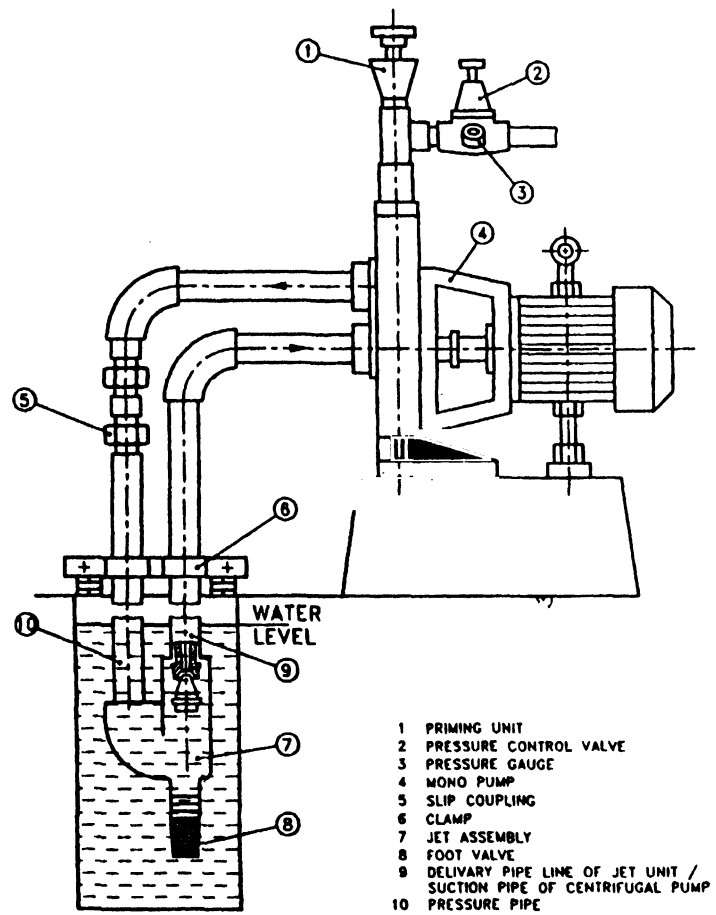
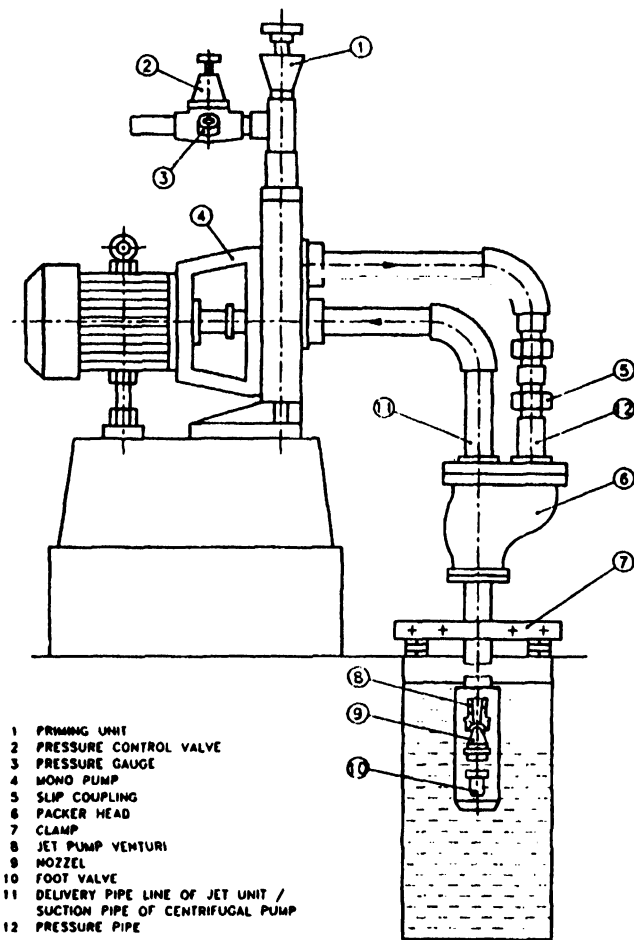
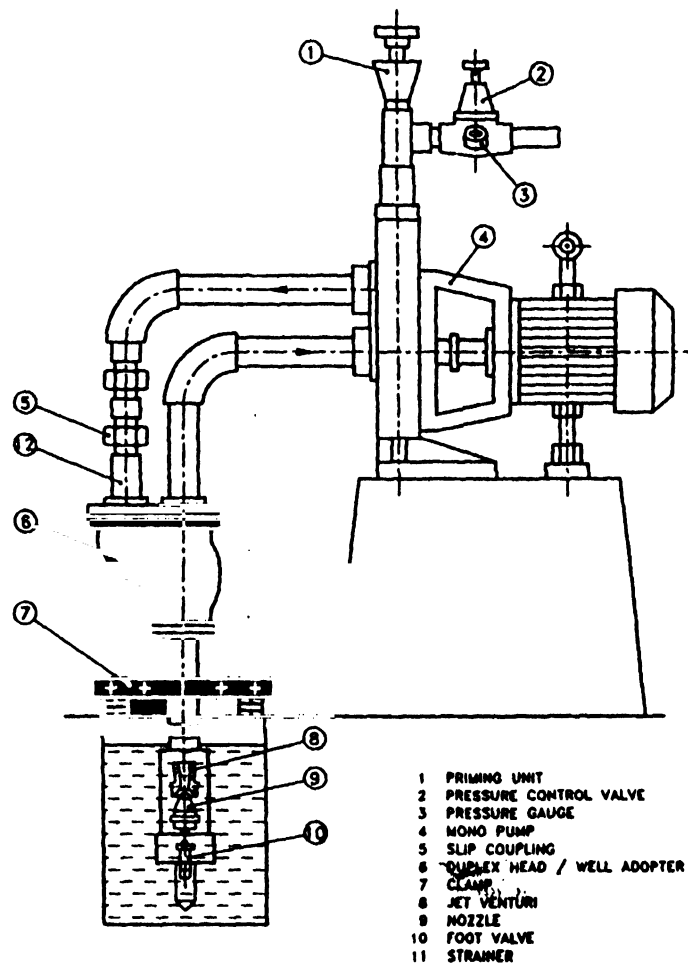

FIG. 1 TYPICAL FIELD INSTALLATION FOR TWIN TYPE JET CENTRIFUGAL PUMP COMBINATION
FIG. 2 TYPICAL FIELD INSTALLATION FOR PACKER TYPE JET CENTRIFUGAL PUMP COMBINATION
FIG. 3 TYPICAL FIELD INSTALLATION FOR DUPLEX TYPE JET CENTRIFUGAL PUMP COMBINATION
NOTE — Typical field installations for twin type centrifugal jet pump, packer type centrifugal jet pump, and duplex type centrifugal jet pump are given in Fig. 1, Fig. 2 and Fig. 3 respectively.'
6.2 Installation of Twin Type Centrifugal Jet Pump (see Fig. 1)
Clean all pipes from foreign particles before tightening with jet pump (assembly). Tighten the delivery (suction of centrifugal pump) and pressure pipes, applying suitable pipe compound to the proper threads with the jet pump (assembly). While tightening the delivery pipe (suction of centrifugal pump) care shall be taken to see that it does not on any account strike the protruding portion of the venturi tube. Do not overtighten the pipe in the jet body and while tightening the pressure pipe do not move away the two pipes too much as both the above actions may lead to breakage of the jet assembly. After tightening each length pour water and see that there is no leakage in the joints. A chain block of minimum two tonne capacity with tripod consisting of 6-metre long 50-mm dia pipes, can be used for deep well erection. The delivery (suction of centrifugal pump) and pressure pipes shall be clamped with proper size clamp securely, and while one clamp is for lowering (or lifting), the nuts of the other clamp be loosened and positioned in the proper place and secured to fit the chain block hook for the subsequent operation. Tighten each end of pipe length by a binding wire to avoid damage to the jet assembly due to pipe chattering during subsequent pipe tightening. When the pipes have been fitted up to full length, fit two elbows with the delivery (suction of centrifugal pump) and pressure pipes with the proper centre distance between the pipes and fit them to the delivery (suction of centrifugal pump) and pressure pipe lines in the common flange of the centrifugal pumpset. The slip coupling in the pressure pipe line (*see Fig. 1*) facilitates easy erection. Then insert the slip coupling in the pressure line such that the cut is in the centre of the coupling. Then tighten pump common flange without any leakage with a rubber washer to the pump body. In vertical mounting Gt directly the delivery pipe (suction of centrifugal pipe) to the common flange and assemble the slip coupling in the pressure pipe line vertically. For horizontal mounting the slip coupling can be conveniently Gtted in the horizontal portion of the pressure pipe line.'
'6.3 Installation of Packer Type Centrifugal Jet Pump (see Fig. 2)
6.4 Installation of Duplex Type Jet Pump (see Fig. 3)'